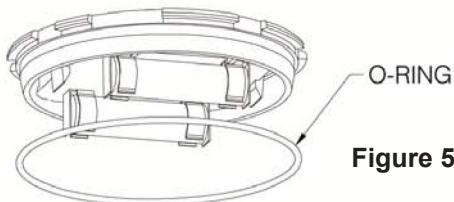

Figure 5
4. As noted in Figure 5, reinstall o-ring on electronics module Align sensor receptacle in proper location. Press module gently down into meter cover.